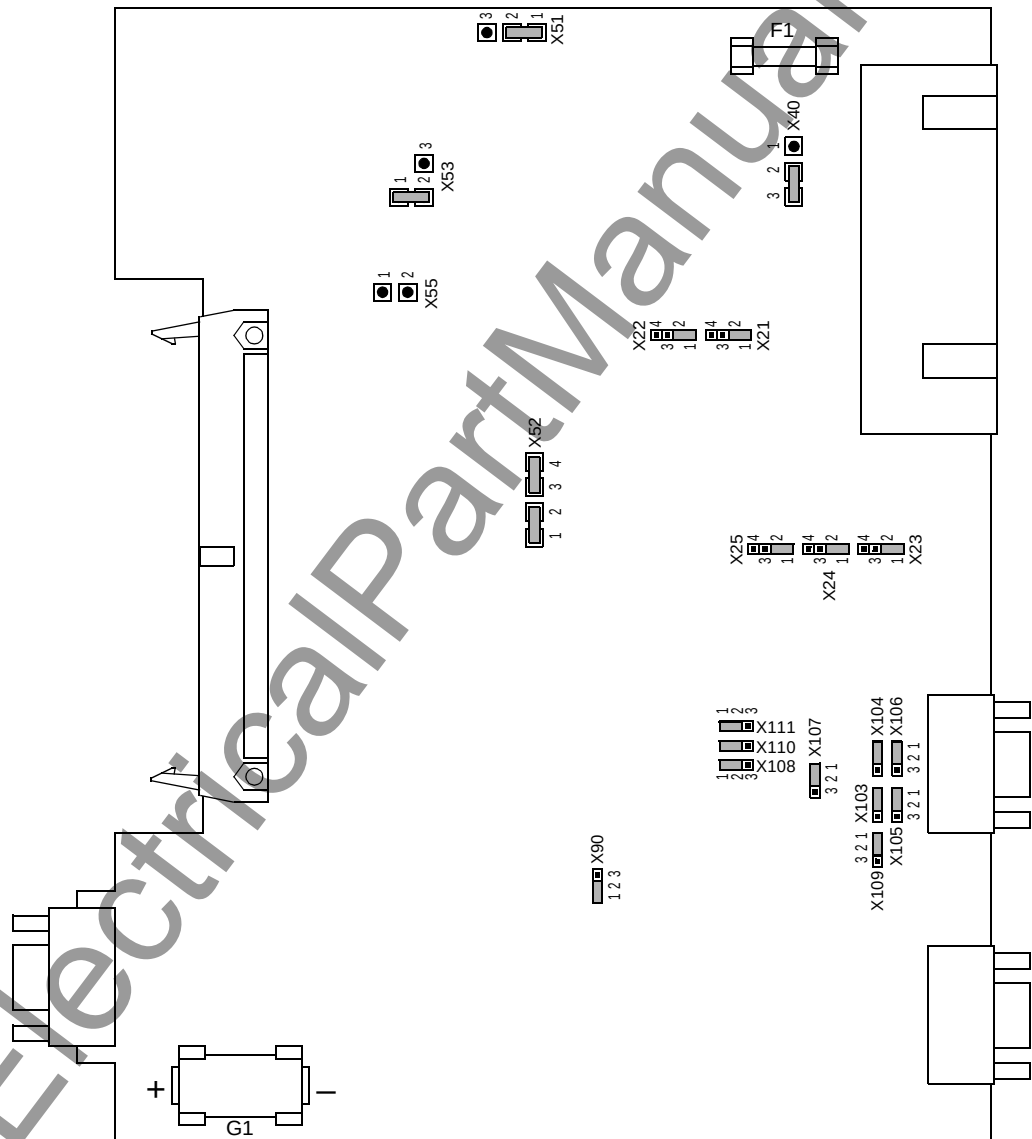

Figure 8-11 Processor printed circuit board C-CPU-2 with jumper settings required for the module configuration
- ☐ Disconnect the ribbon cables between the C-CPU-2 unit (❶) and the input/output printed circuit boards (depending on the version❷ to ❸).
- ☐ Check the jumpers according to Figures 8-11 to 8-16 and the following information Change or remove the jumpers as necessary.
The layout of the printed circuit board of the processor printed circuit board C-CPU-2 is illustrated in Figure 8-11.